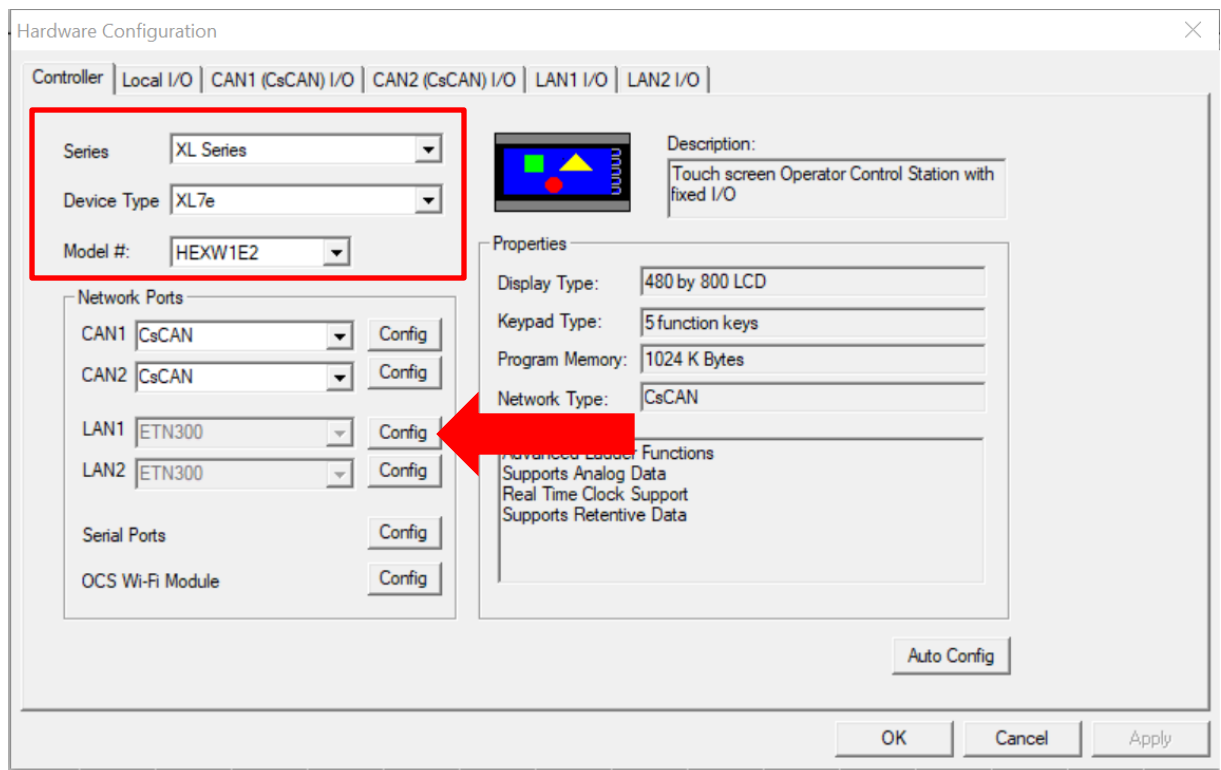

Figure 1 - Hardware Configuration Screen
- From Cscape go to **Controller** → **Hardware Configuration** and verify the controller series and model #. (Figure 1)
- Click on the LAN1 **Config** button. (Figure 1)